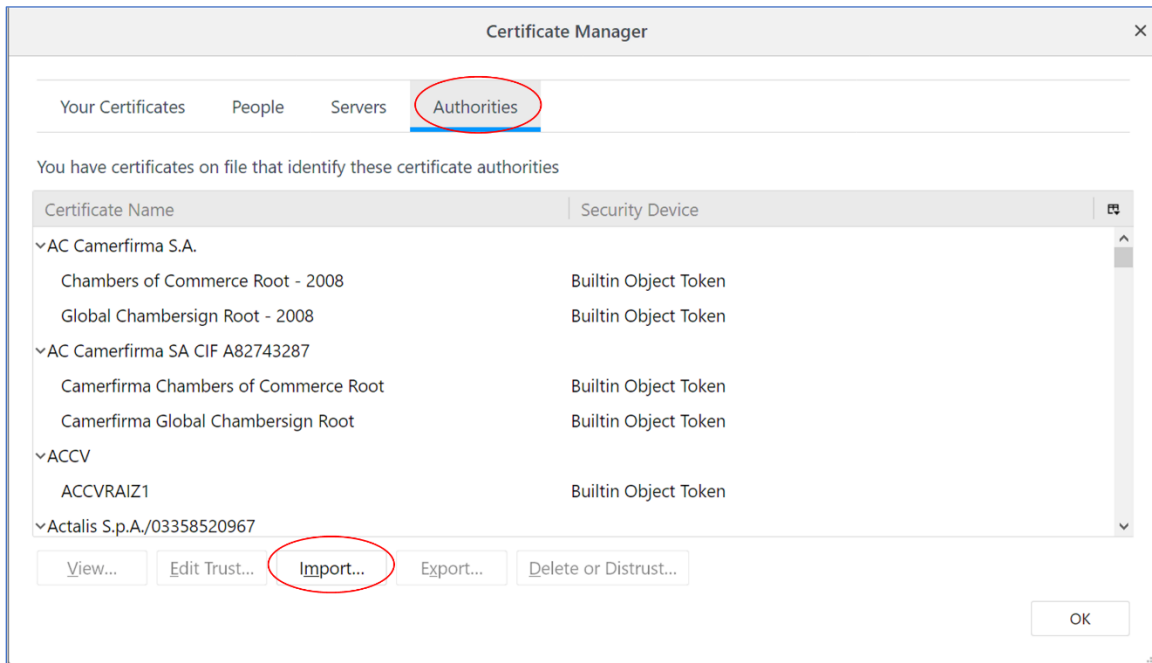

Figure 333: Firefox Certificate Manager
4. Click on the View Certificates... button to view the Certificate Manager, as shown in Figure 333.